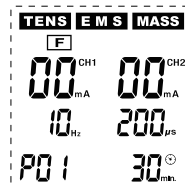

Fig. 9
- ⑭ **(F)**: Special programmes for the **foot** (see Fig. 9)